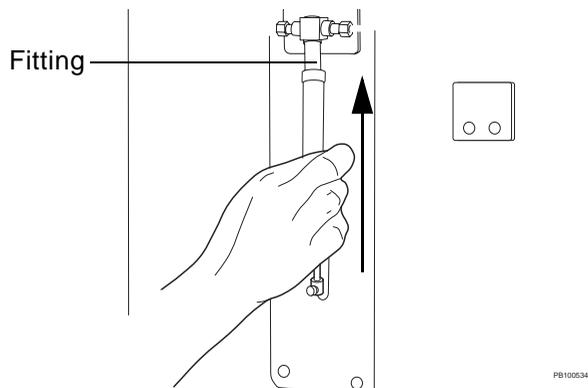

Figure 5-2 Attaching a Syringe to the AFC 2000
1. Mount the new syringe on the plunger shaft and pull up on the syringe body until it reaches the fitting (Figure 5-2).